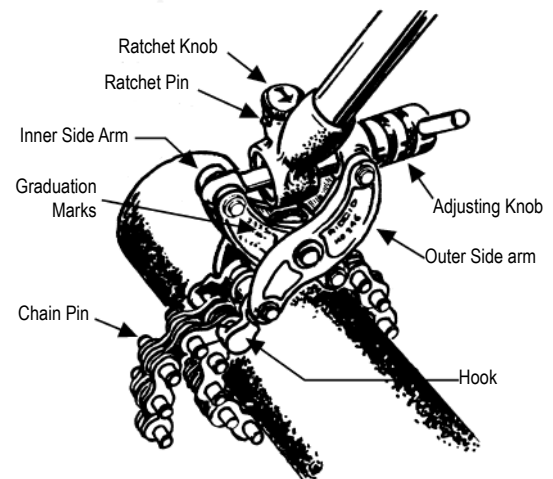

Fig. 1
5. Turn ratchet knob so that arrow points to red handle. (See Fig. 1). Chain must be properly set to assure ample travel for cutting action.